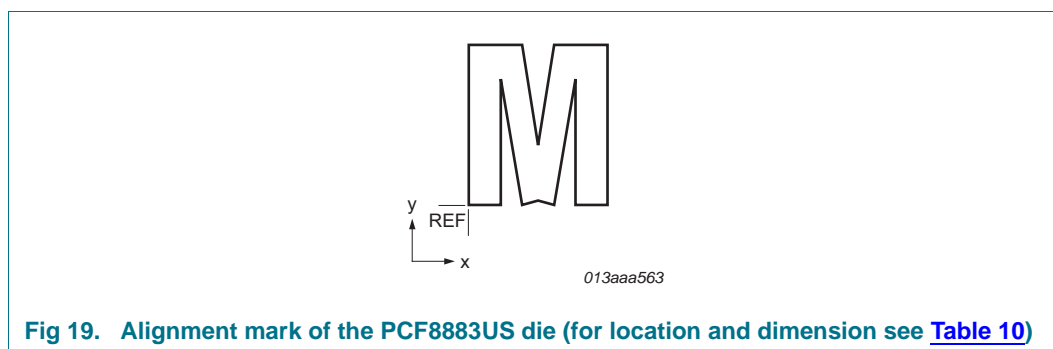

Fig 19. Alignment mark of the PCF8883US die (for location and dimension see Table 10)
- [1] The x/y coordinates of the alignment mark location represent the position of the REF point (see Figure 19) with respect to the center ($x/y = 0$) of the chip.
- [2] The x/y values of the dimensions represent the extensions of the alignment mark in direction of the coordinate axis (see Figure 19).